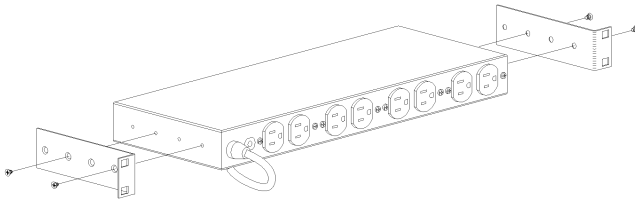

Figure 3: Attaching Mounting Brackets
2. Refer to Figure 3 and use a #2 Phillips-head screwdriver, and two of the supplied screws, to attach each mounting bracket to the MasterSwitch™.